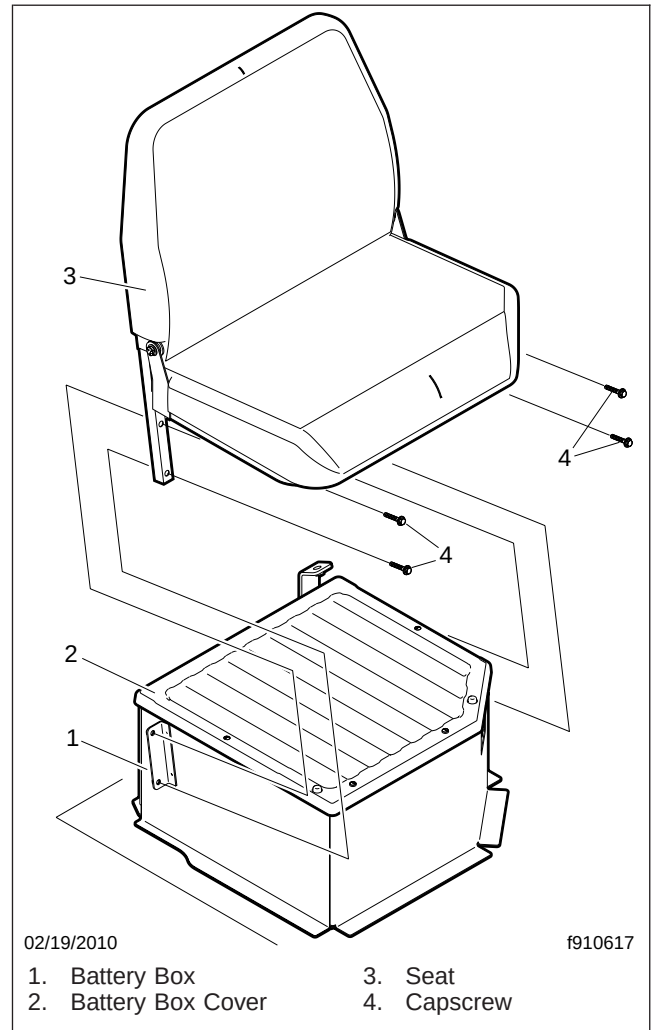

Fig. 1, Battery Box Seat Installation
2. On each side of the seat, remove the two cap-screws that attach the seat to the bracket on the battery box. See Fig. 1.